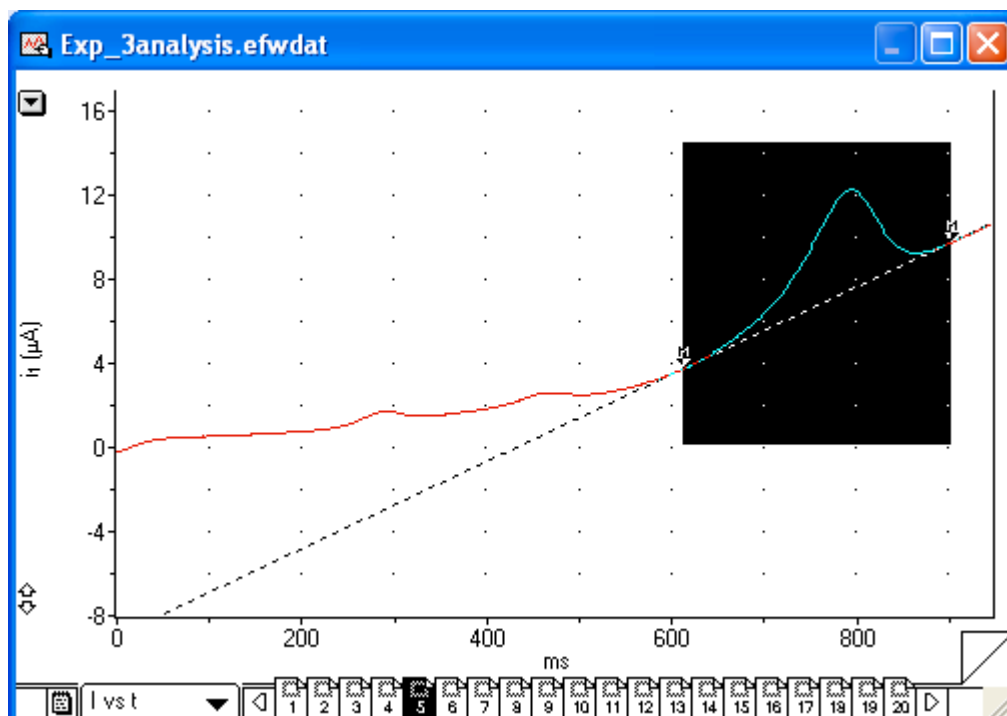

Figure 6.1 Selection of a Peak for Integrating
- 6.1.1** For integrating peak areas, change the display from I vs E to I vs t in the display pop-up menu on the bottom left hand corner of the main EChem window. See **Figure 6.1**.
- 6.1.4** Adjust the markers until you feel that the tie line is a good approximation of the baseline of the peak. Using the mouse select the region between the markers, See **Figure 6.1**.